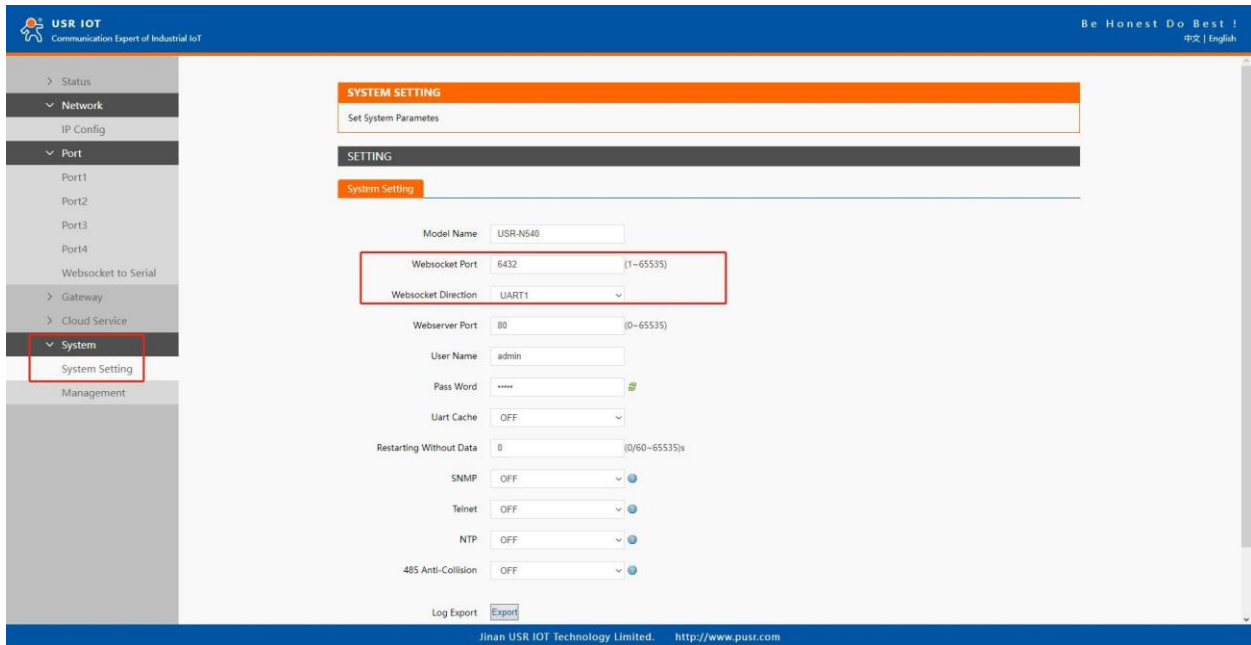

Fig.62 Websocket server setting
1. Click on the “system setting” tab on the menu frame on the left side of Web UI to go to system setting page as shown in Fig.62.